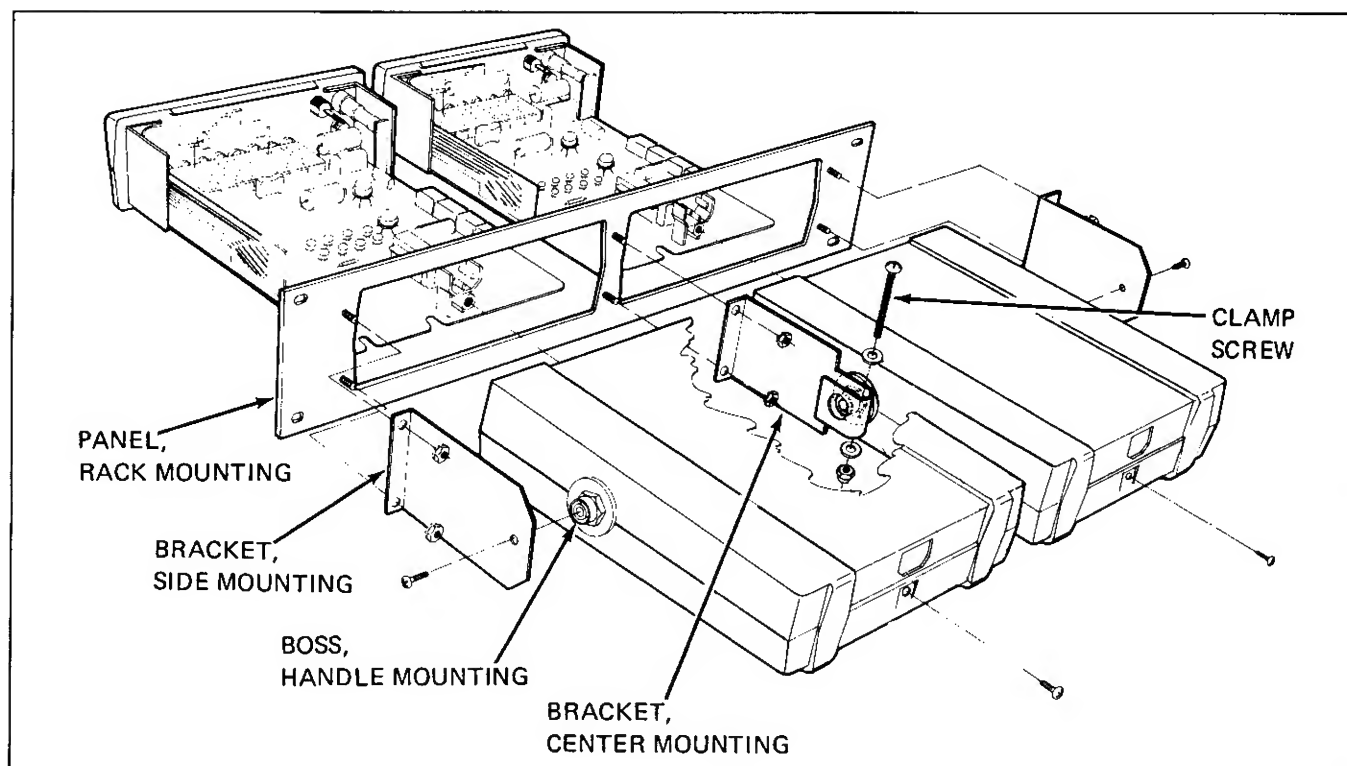

Figure 600-4. RACK MOUNTING KIT, SIDE-BY-SIDE MOUNTING
3. Install the center mounting bracket, as shown in Figure 600-4 and secure it to the mounting panel, using the nuts provided.